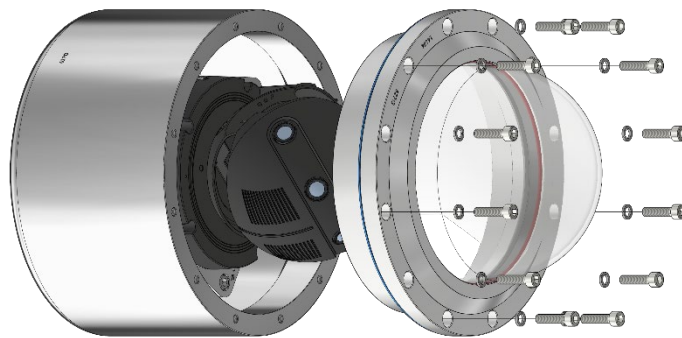

Figure 6-1 Opening the RoughCam T10-VA4.1K.PS1
- Carefully pull out the dome flange strictly vertically/perpendicularly (see Figure 6-1). There is a risk of side tilt! Because of negative pressure it may be difficult to remove.